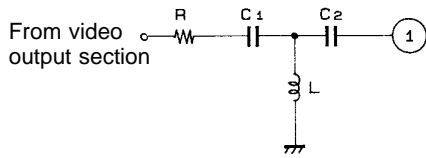
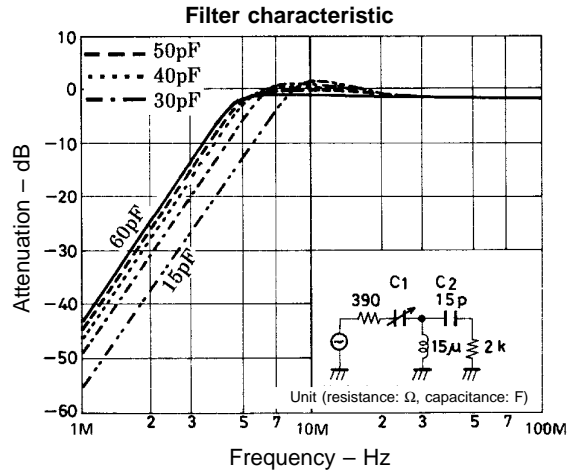

Figure 2
Figure 3
- Pin 1 is the SIF input pin. The filter in Figure 2 can be connected to the input section to improve the buzz characteristic. Figure 3 shows the characteristics for the filter in Figure 2. If C1 is too small, the buzz characteristic improves for normal input, but the filter cuts into the sound carrier and the buzz characteristic deteriorates for the P/S (picture/sound carrier) ratio. Use $C1 \approx 20 \text{ pF}$ to 47 pF .